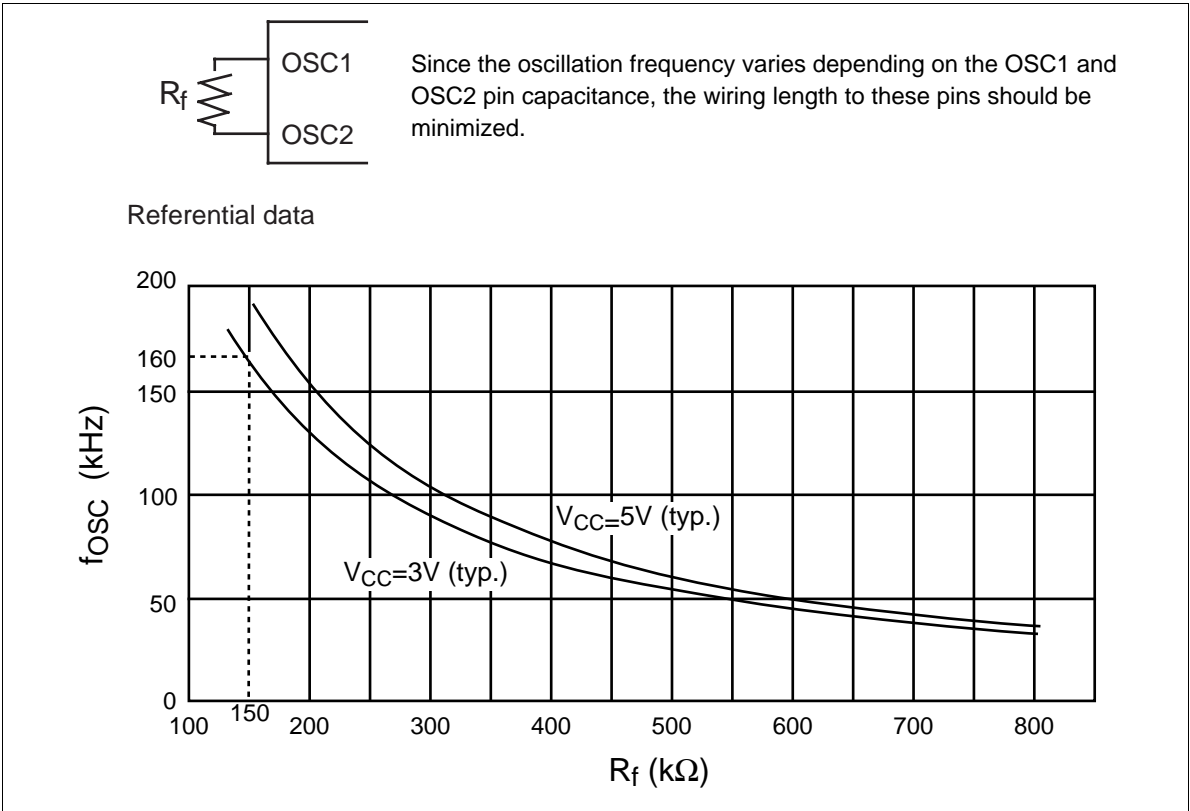

Figure 49 Internal Oscillation
14. Applies to the internal oscillator operations using oscillation resistor R_f (Figure 49).